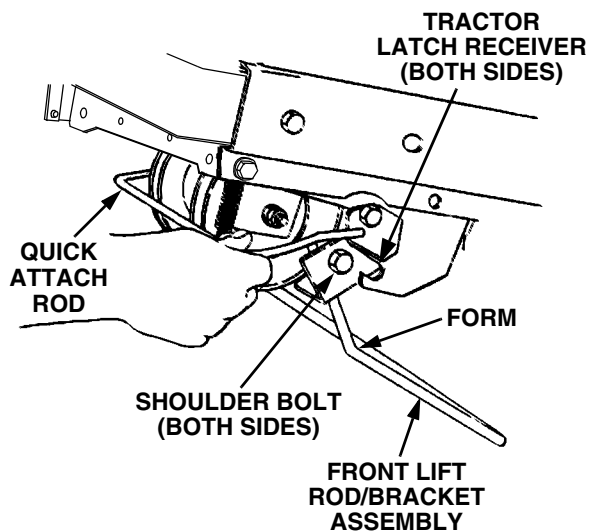

Figure 44
4. Refer to Figure 44 to ensure the correct orientation of the front lift rod/bracket assembly [form (bend) in sides of rod point downward].